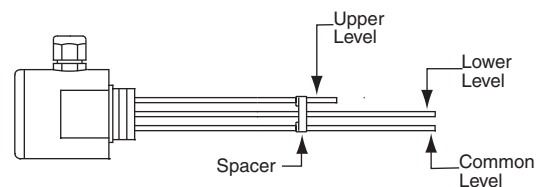

Figure 1
2. Cut two (2) probes to the same length, these will be the common and lower level probes. See figure 1.
3. Cut one (1) probe to the desired length for the upper level of the tank. See figure 1.